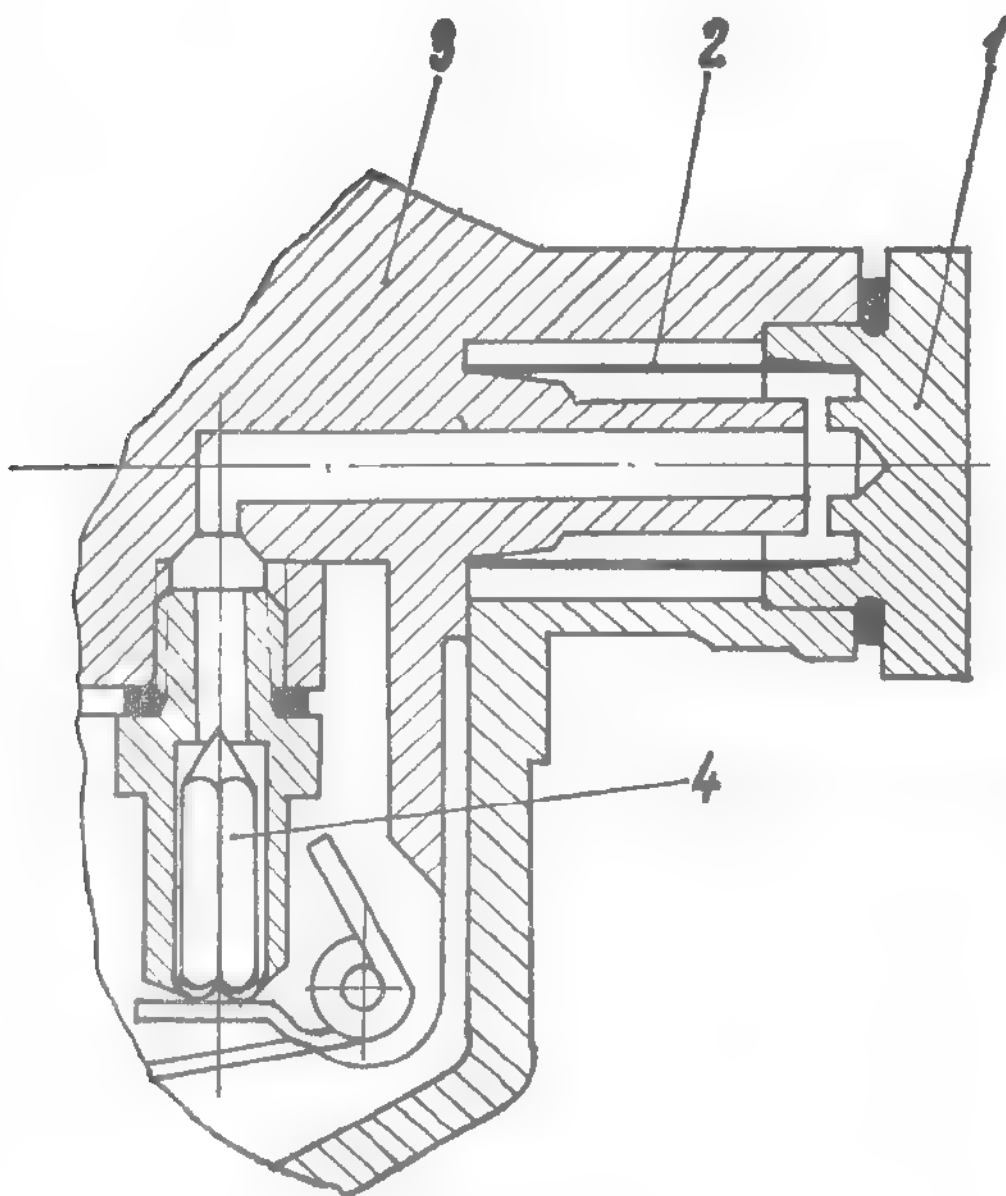

Fig. 2.22. CARBURETTOR INLET STRAINER
- Carefully remove the cylindrical gauze strainer, checking in the same time if gasket or strainer are not deformed or fissured and if the sealing surface has no blows (see fig.2.22).